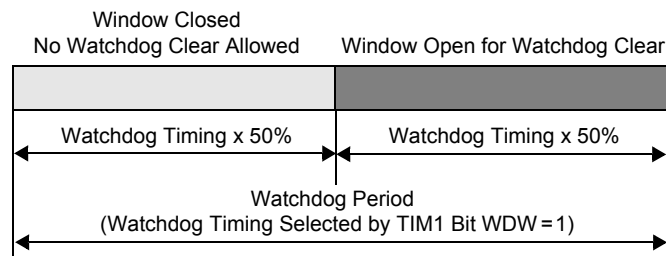
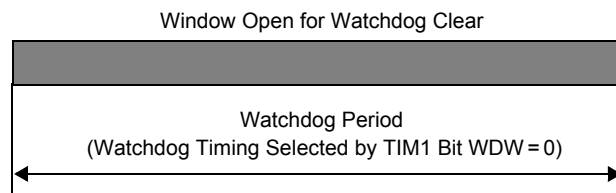

Figure 25. Window Watchdog
Figure 26. Timeout Watchdog
1. TIM1—Controls the watchdog timing selection as well as either the watchdog window or the watchdog timeout option (Figure 25 and Figure 26, respectively). TIM1 is selected when bit D3 is 0 (Table 25). Watchdog timing characteristics are described in Table 26.